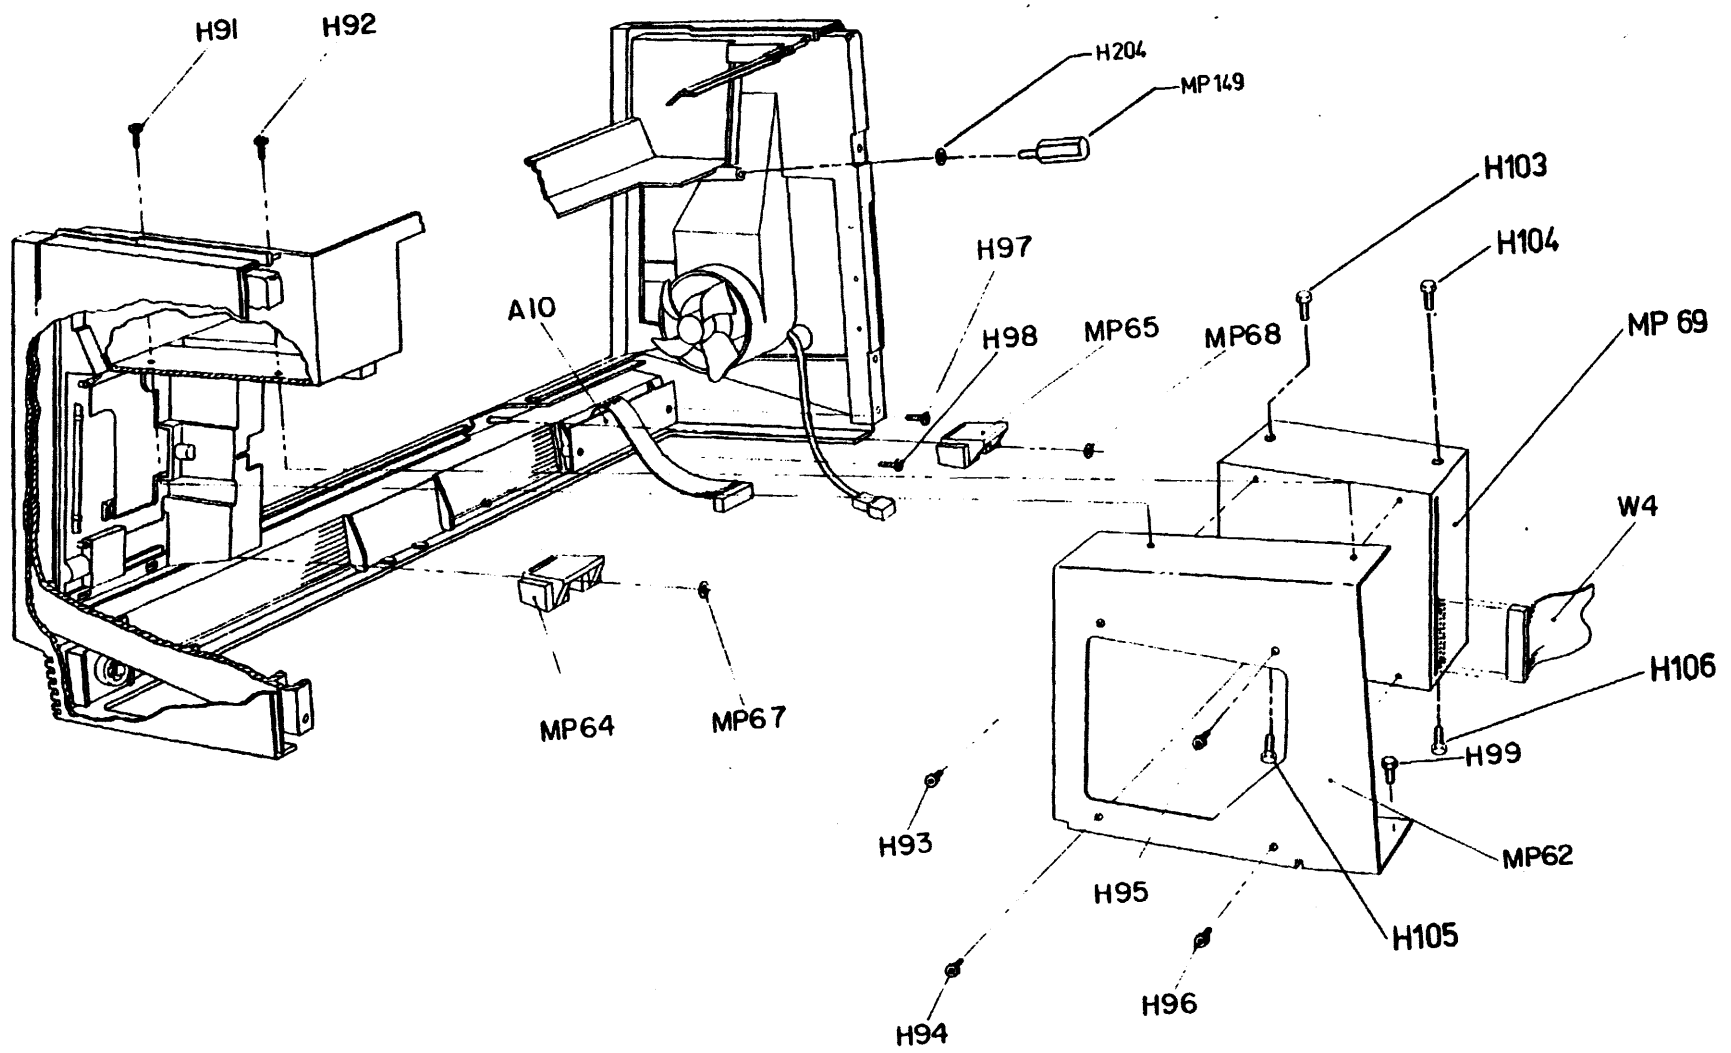

Figure 9-2. Front Disc Assembly Exploded View
* MP150 and H205 are not shown in figure 9-2. They are located behind the logic PCA mounting panel as are MP149 and H204.